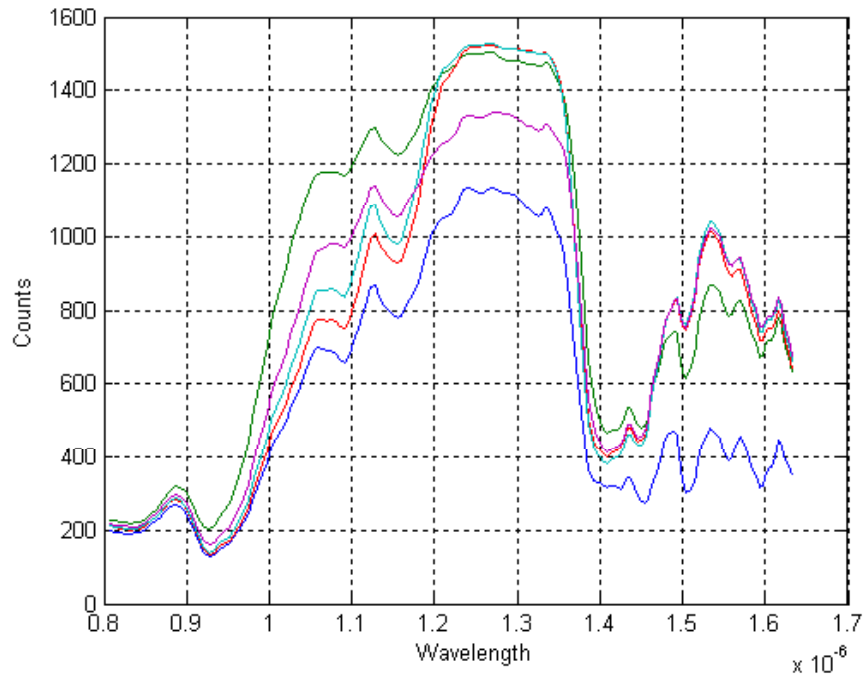

Figure 2: Data Acquired (successive spectra, smoothed features) from Argus 1000 on CanX-2 platform over Ontario, Canada, December 2008.
dioxide is approximately one hundred times greater than that of water vapour. Oxygen can also be observed; however, a shorter integration time is required than for carbon-dioxide observation. Carbon Monoxide (CO) and Hydrogen Fluoride (HF) is not detected in spectra because of feature contamination by other absorbing gases (water vapor). There is some evidence of methane (CH₄) absorption at 1.63 μm; however it is contaminated with carbon-dioxide features. The extended range detector is recommended for the observation of methane (CH₄) features at 2.25 μm. The integrated intensity is highly correlated with surface albedo. Spectra contaminated by cloud cover show typically reduced gas absorption, a blackbody-like response and increased intensity. Results of spectra acquired over Canada in 2008 are shown in Figure 2.